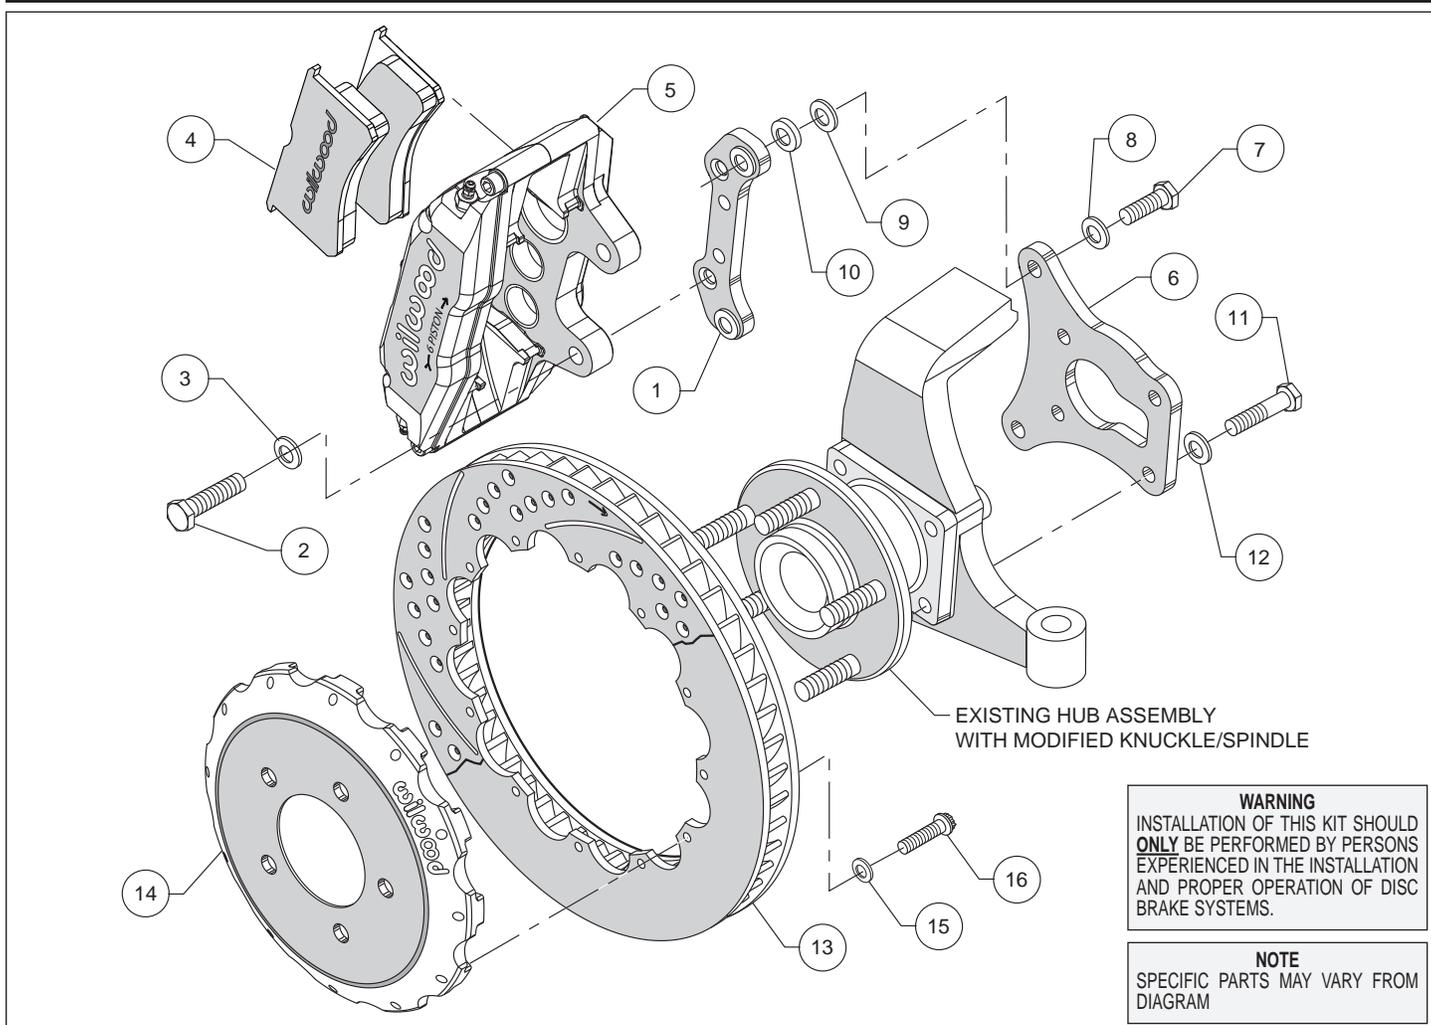
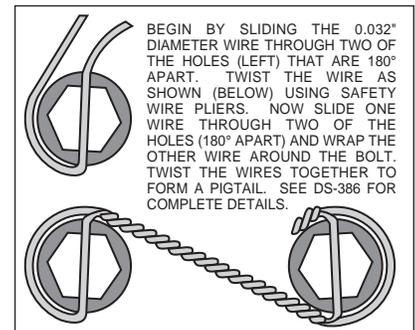

Figure 1. Typical Installation Configuration
Figure 4. Safety Wire Diagram
- Mount bracket (6) to the backside of the spindle/hub assembly using bolts (11) and flat washer (12).
- With the larger I.D. side of the rotor (13) facing away from the hat (14), bolt rotor to hat using washers (15) and bolts (16). Using an alternating sequence, apply red *Loctite*® 271 to the threads and torque bolts to 155 in-lb. For an added measure of security, the bolts may be safety wired using standard 0.032 inch diameter stainless steel safety wire as shown in Figure 4. Please refer to Wilwood's data sheet DS-386 (available at www.wilwood.com/Pdf/DataSheets/ds386.pdf) for complete safety wire installation instructions. Slip the rotor and hat combination onto the wheel studs and hold in place with three lugs nuts.
- Apply red *Loctite*® 271 to bolt threads (2) before mounting caliper to the caliper mounting bracket (1). **NOTE:** Be sure the heads of the 7/16-20 bracket (1) insert nuts are facing outward toward the wheel.
NOTE: Please reference the caution statement at the beginning of the assembly instructions. This kit contains distinct right and left hand calipers that must be mounted in a specific direction, as described below. Mount the caliper (5) onto the caliper mounting bracket (1) using bolts (2) and washers (3), as shown in Figure 1. torque bolts (2) to 60 ft-lb. Mount the caliper/bracket combination to the spindle bracket (6) using bolts (7) and washers (8). Initially place one .030" thick shim (9), and spacer (10) on each bolt between the two brackets (1 and 6) as shown in Figure 1. Ensure that the caliper is mounted so the largest pistons are at the rotor exit end of the caliper, in relation to the direction of rotor rotation. Temporarily tighten the mounting bolts and view the rotor (13) through the top opening of the caliper. The rotor should be centered in the caliper. If not, adjust by adding or subtracting shims (9) between the caliper mounting brackets (1) and the spindle brackets (6). Always use the same amount of shims on each of the two mounting bolts. **NOTE:** The end of each bolt must be flush with or slightly protruding from the head of the clinch nut. If necessary place spare shims between spacer (10) and caliper mounting bracket to achieve the proper clinch nut engagement. Once the caliper alignment and clinch nut engagement are correct, remove the bolts one at a time, apply red *Loctite*® 271 to bolt threads, and torque to 60 ft-lb.
- Remove the bridge bolt from the caliper (5) and install the disc brake pads (4). Reinstall the caliper bridge bolt.